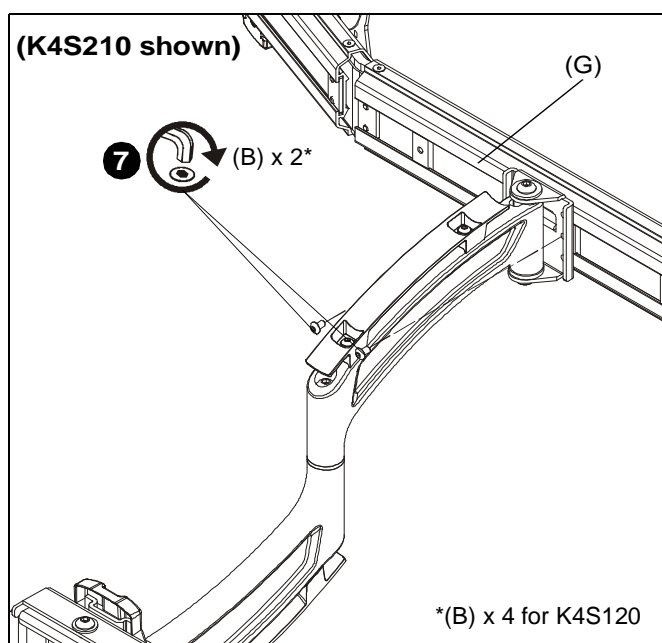

Figure 4
7. Use two #10-32 x 5/16" button head cap screws (B) to secure column arm to array (G). (See Figure 4)